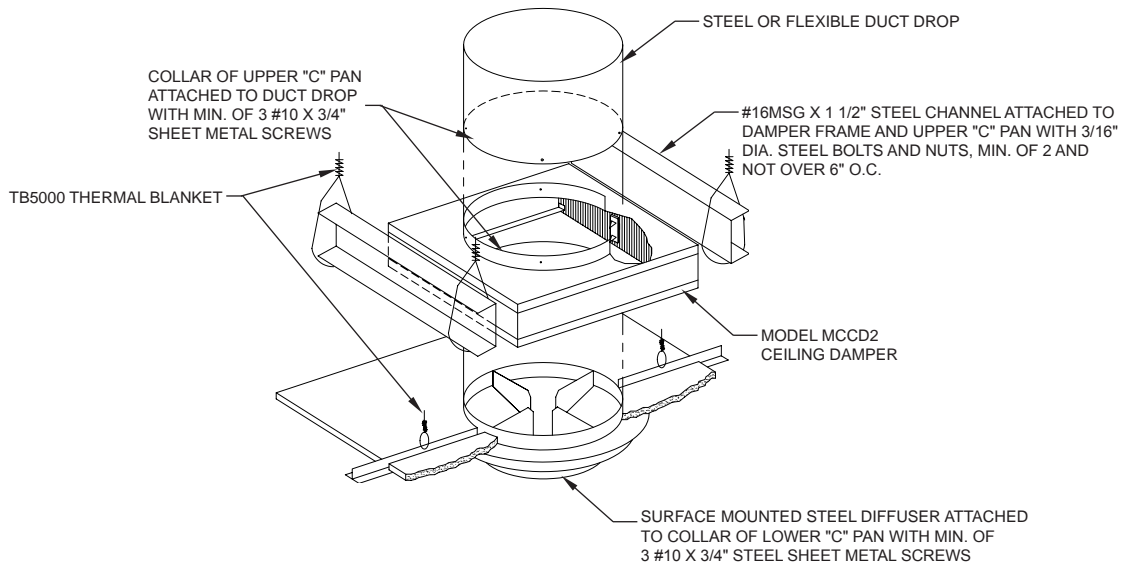

FIG. 7
2. The damper shall be supported by two steel channels (See **FIG. 7**), one channel on each side of damper perpendicular to duct direction (See **FIG. 7**). Each channel shall be approximately 12” longer than the width of the duct, but extending beyond the location of the structural members above, and be hung near each end by a vertical, (not splayed), hanger wire, (See **FIG. 7**), from the structural members. Each channel shall be bolted to the upper end of damper frame and the “C” pan, with the steel bolts and nuts (See **FIG. 7**). Minimum of two bolts and spaced not more than 6” O.C. shall be used.
3. The collar of the upper “C” pan shall be attached to the round duct drop with a minimum of three steel screws (See **FIG. 7**), uniformly spaced.